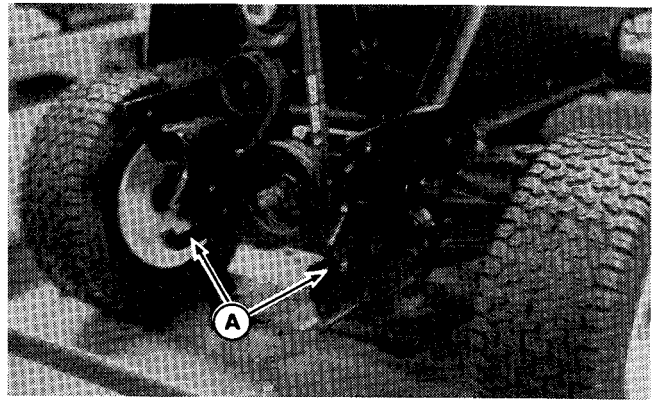
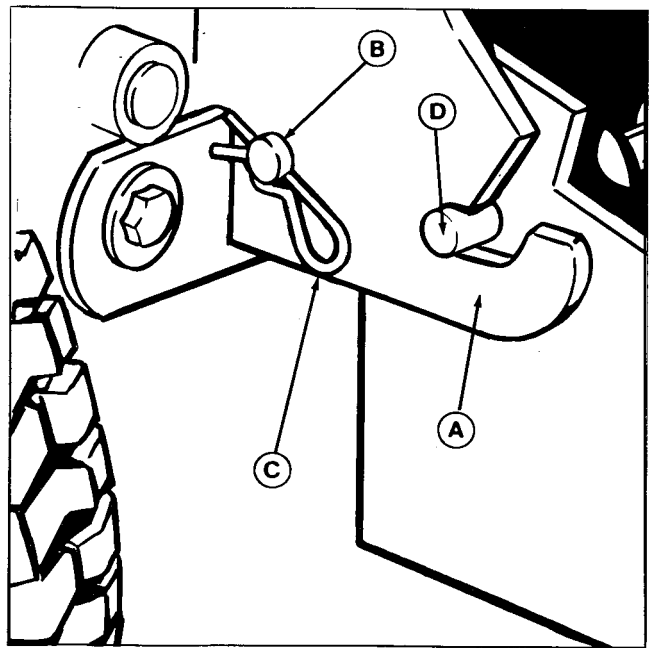

Figure 6
Figure 7
5. Position the dozer blade assembly in front of tractor hitch (figure 6). Raise the dozer hitch, and hook the pins (D, figure 7) onto the tractor hitch (A). Then raise the bar on either side of hitch. Insert pin (B) through hole in bar and tractor and secure pin with a clip (C).